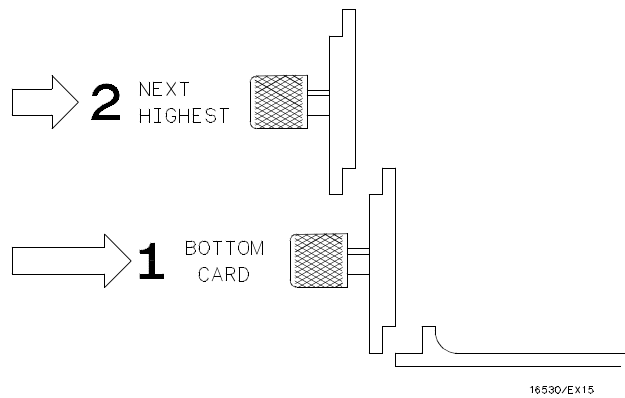

Figure 2-3. Endplate Overlap
- h. Repeat for all cards and filler panels in a **bottom to top** order. See figure 2-3.